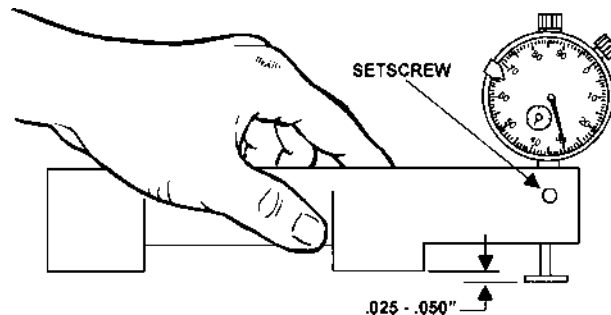

FIGURE 18
8. Lift the knife gauge off the outfeed table to see how far below the bottom of the gauge the indicator travels. The indicator should read between .025 and .050 as shown in Figure 18.